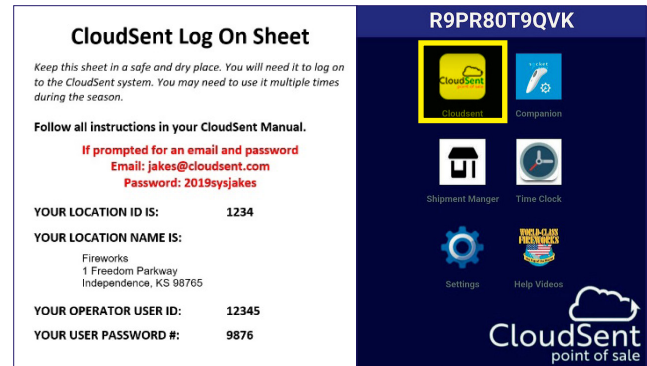

Figure 20
4. On the tablet Home Screen select the CloudSent Icon. (Figure 20).